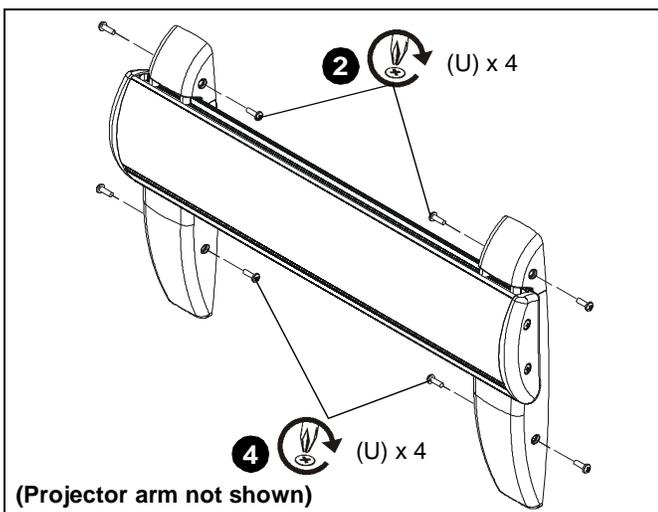

Figure 33
2. Secure wall bracket top covers (E) to wall bracket arms by installing four #8-32 x 1/2" Phillips pan machine screws (U) through holes in covers and wall bracket. (See Figure 33)
4. Secure wall bracket bottom covers (F) to wall bracket arms by installing four #8-32 x 1/2" Phillips pan machine screws (U) through holes in covers and wall bracket. (See Figure 33)